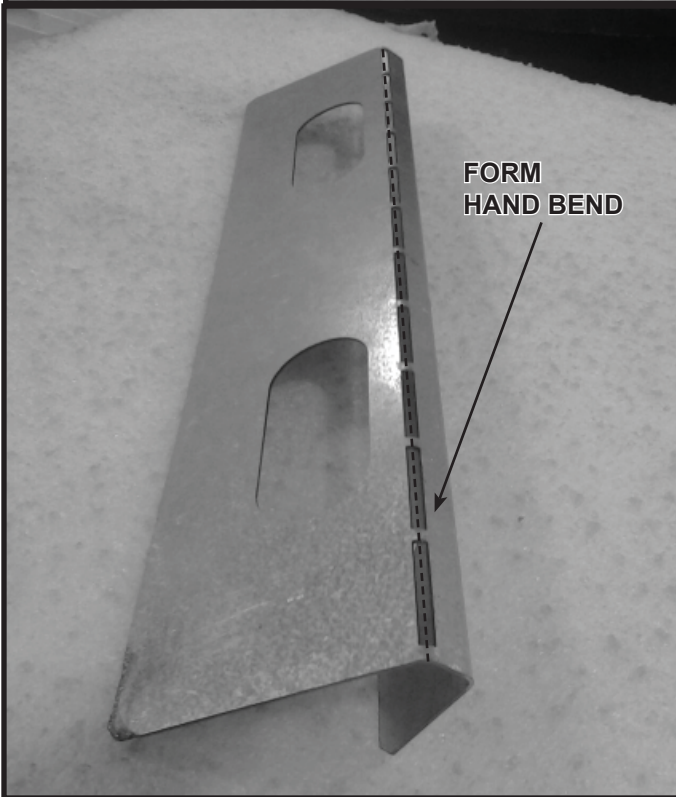

Figure 10.14 Form Transition Glass Panel Bracket
- Install glass transition panel bracket on left and right sides of appliance opening using two self-tapping screws. See Figures 10.14, 10.15 and 10.16 for details.